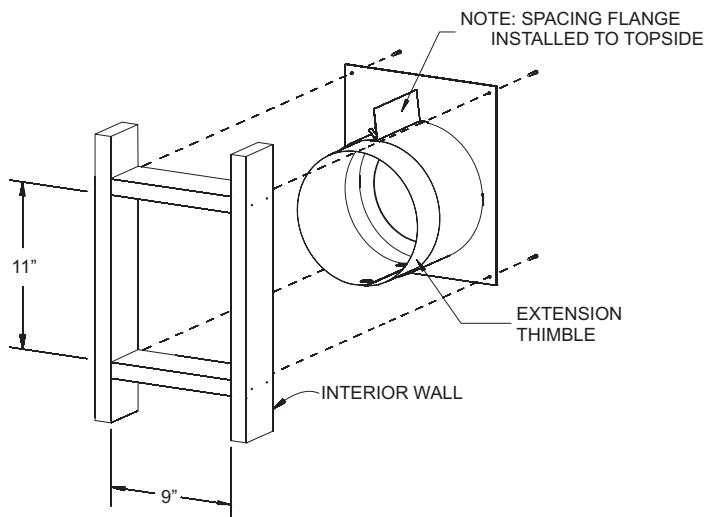

Figure 54
- Cut hole in wall for wall thimble/firestop assembly into your combustible wall. **See Figure 54.** Note: On brick or block exterior wall a 7" (178mm) diameter hole needs to be cut. Measure the total wall thickness to determine whether or not the extension thimble is to be used. If the combustible wall depth is over 5 3/8" (137mm), then the extension thimble should be used. **See Figure 54.**
- Install the wall thimble assembly through the framed opening so the firestop plate is on the interior wall. **See Figure 54.** Telescope section should extend all the way through the exterior wall. Attach with four 10 x 1" screws.
- With the vinyl siding kit installed to wall (if necessary), insert the 6 5/8" (168mm) diameter tube with outside mounting plate attached through hole in wall. Connect to collar on fireplace or rigid vent system. Measure between wall or vent cap extension and outside mounting plate. **See Figures 54 and 55.**